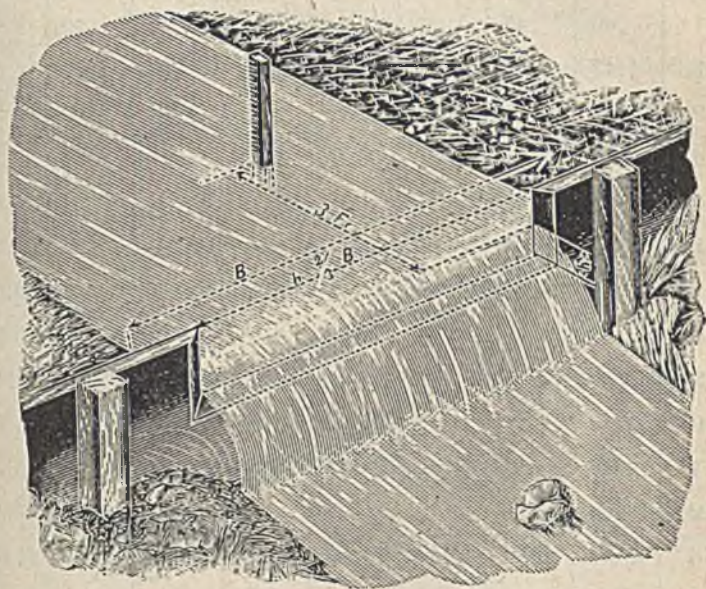

Fig. 24.—Typical weir.
**Ans.** The weir proper consists of a notched board as shown in fig. 24. Place the board across the stream at some point which will allow a pond to form above.